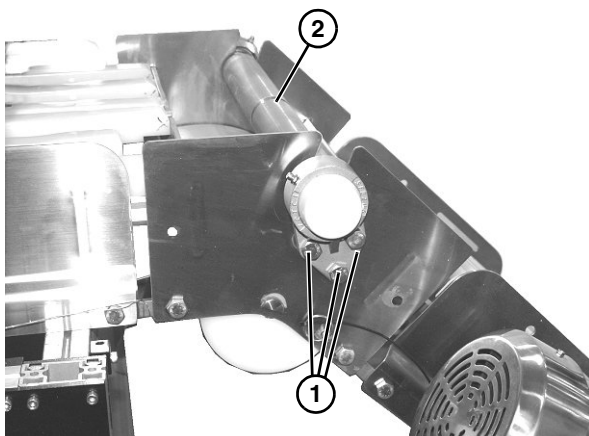

Figure 95
1. Remove three bolts (**Figure 95, item 1**) on each side, and remove spindle assembly (**Figure 95, item 2**) from knuckle.